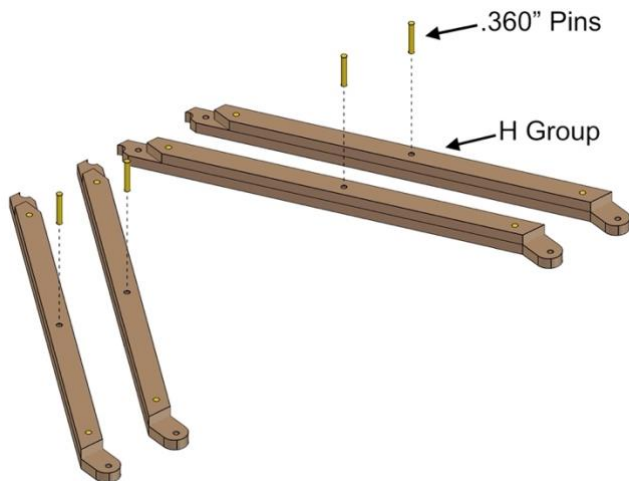

Fig. 39
- Insert four .360" pins, as shown in Fig. 39.